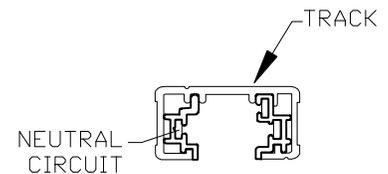
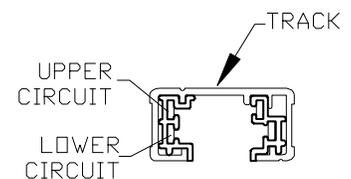

FIG. 4 HALO TRACK
FIG. 5 HALO TRACK (2 CIRCUIT)
2. If using two circuit track (FIG. 5) position MOVABLE contact to desired position. Raise contact for upper circuit using a flat blade screwdriver until contact stops against plastic. Leave contact in lower position for lower circuit of two circuit track and for installation in single circuit track (FIG. 4).